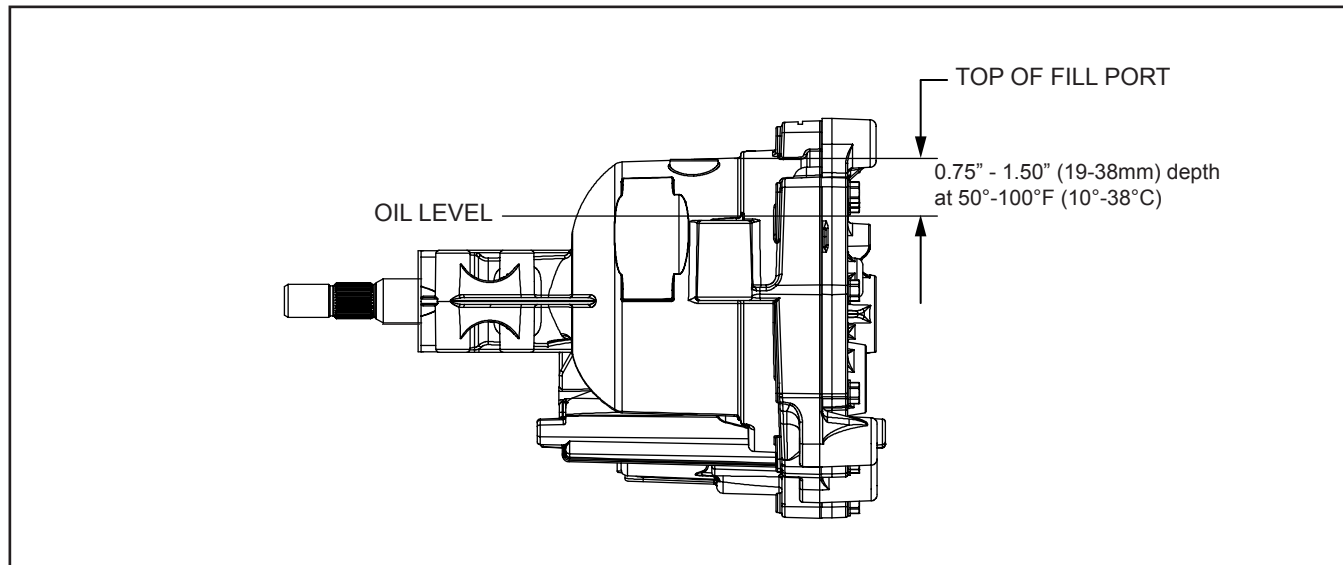

Figure 4. Fluid Level and Fill Port
2. Check oil level in accordance with Figure 4 Page 11.
**NOTE: If removing the wheel from the transaxle, do so by removing the four (4) lug nuts. Do not remove the axle/hub nut.**
5. Fill the transaxle at the oil fill port according to Figure 4.
Before starting, make sure the transaxle/transmission is at the proper oil level. If it is not, fill to the specifications outlined on Page 11, Figure 4.